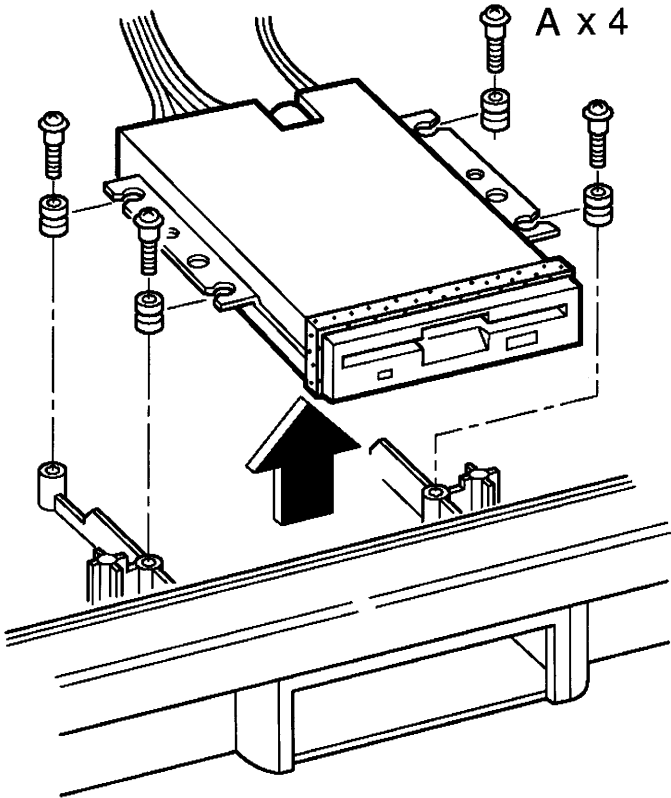

Figure-20
2. Remove the Disk Drive unit mounting screws (A 4 pcs.) as shown in Figure-20.